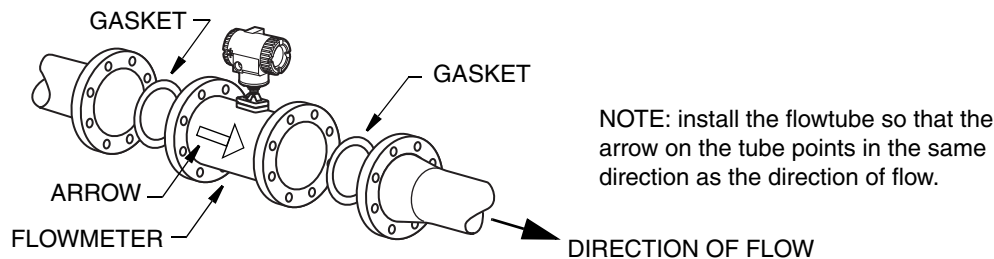

Figure 17. 84F Flowmeter Body Installation
2. Insert gaskets between the body of the flowmeter and adjacent flanges. See Figure 17. Position the gaskets so that the ID of each gasket is centered on the ID of the flowmeter and adjacent piping.